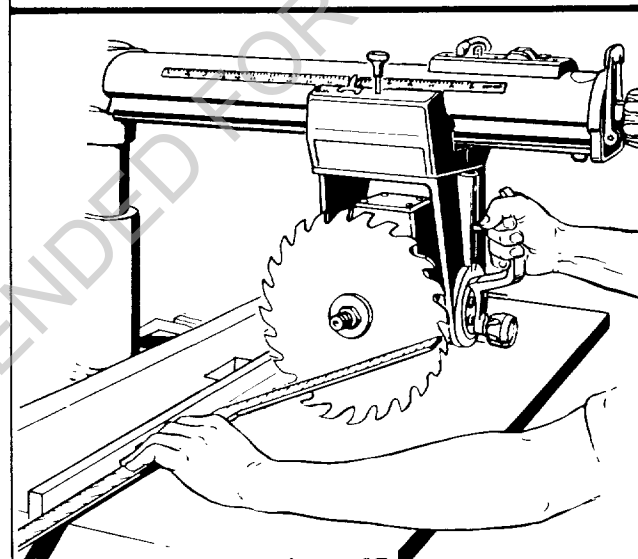

Figure 17
1. Place a square against the rip fence and the saw blade as shown in figure 17. The long leg of the square must be held firmly against the rip fence and the short leg must not touch any of the teeth on the saw blade.